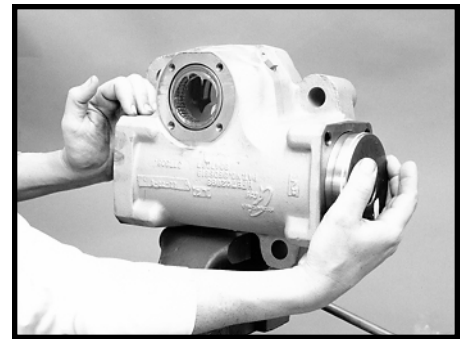

Figure 70
32. Remove the rack piston (29) worm shaft/ input shaft (16) assembly from the gear housing (19). SEE FIGURE 70. Lay the rack piston (29) worm shaft (6) assembly on a clean rag to keep the piston from rolling.